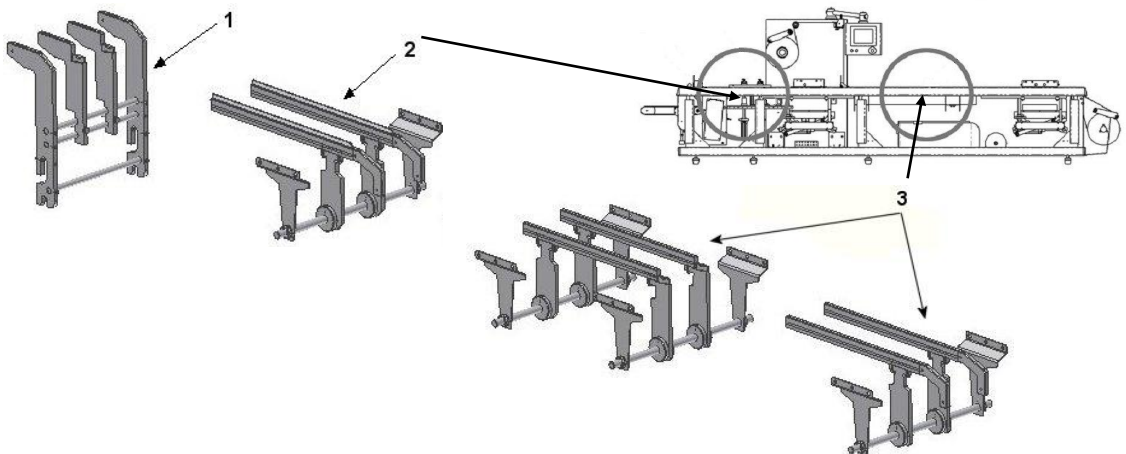

Figure 3.9 Product support bars
The product support bars are situated in the loading area and outfeed extension (see figure 3.9).
The packages also require support following the loading area. This is achieved with shorter product support bars (see figure 3.9, pos. 3.)
The crosscutting is situated on the outfeed extension. Support is needed especially before and after the cross cutting device (see figure 3.9 pos. 2.)